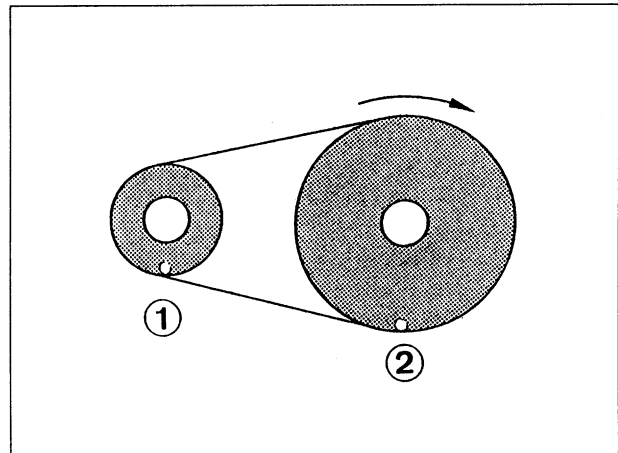

Fig. 2 Transmission with uncrossed transmission belt
5. Fit the transmission belt (rubber ring) into the grooves of the two wheels, as shown in fig. 2.
- ▶ (1) in fig. 2
▶ Arrow in fig. 2.